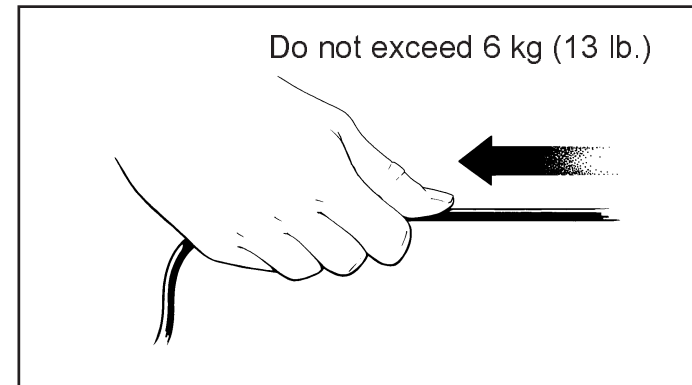

Figure 4
4. The maximum tension which can be applied to the sensor should not exceed 6 kg (13 lb). Tension in excess of this can cause internal damage which may not be obvious from the condition of the outer sheath. Refer to Figure 4.